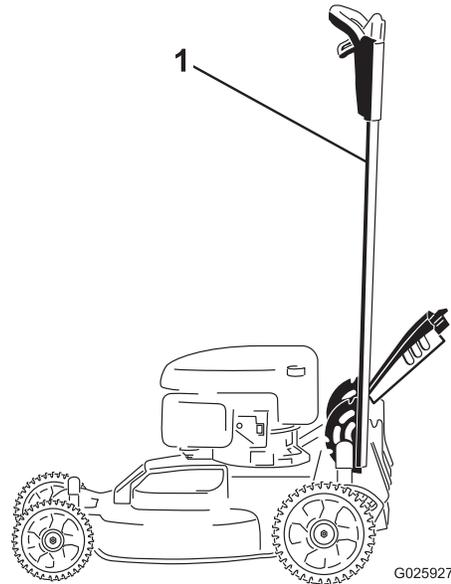

Figure 41
1. Lock the handle in the vertical position (Figure 41); refer to Adjusting the Handle Height (page 11).